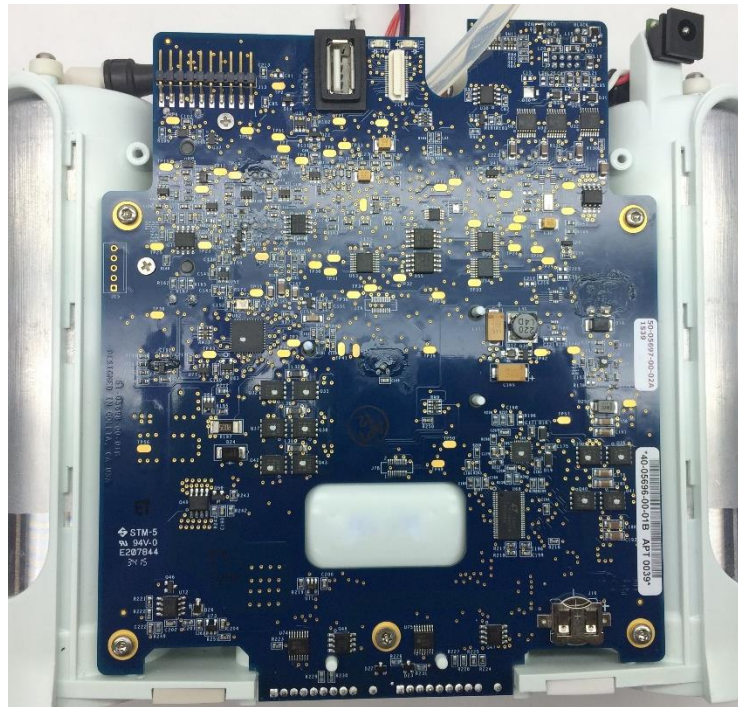

Figure 5: G3HF Motherboard
1. Remove all five (5) screws on the motherboard (Figure 5).